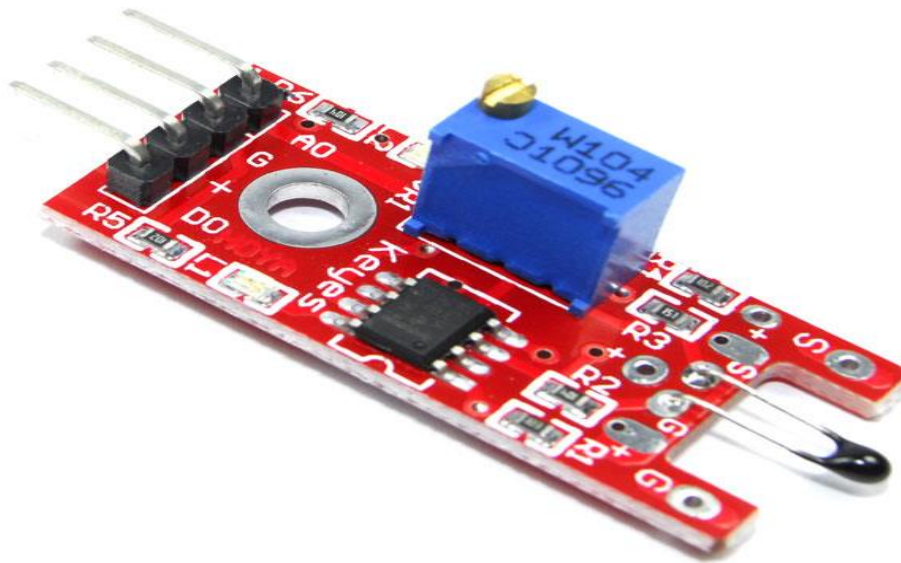

Figure 1. ky-028; NTC Thermistor module.
We must first write a program to interact with the thermistor. We will then document our findings. For this research we will be using the "KY-028" NTC thermistor (1). See figure 1.